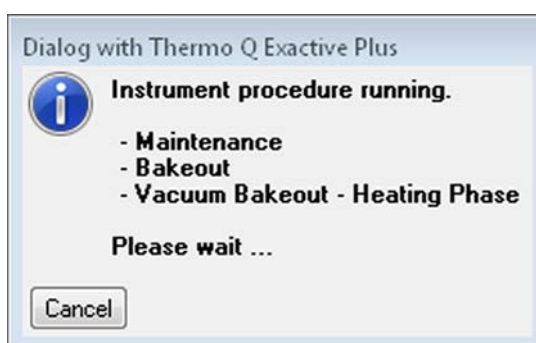

Figure 5-10. Message box: Vacuum Bakeout active
- The message box disappears and the baking procedure starts. The instrument indicates the active bakeout procedure by a flashing Vacuum LED at the front side. Additionally, the Q Exactive Plus Tune software displays a corresponding message box. See Figure 5-10.